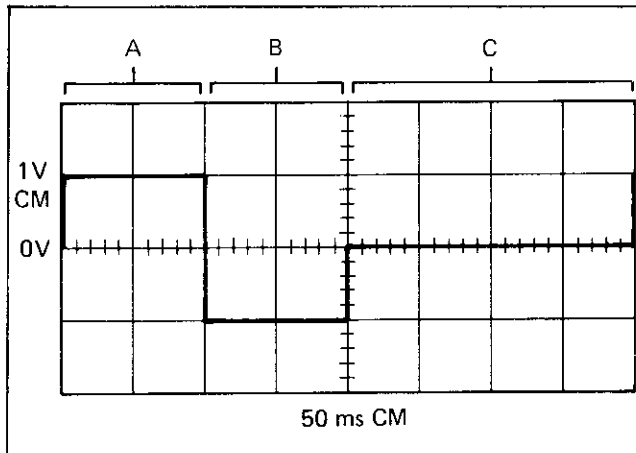

Figure 4-3. TP1 Waveform
4. Connect the scope between TP1 (high) and the LO INPUT terminal. The scope should display the waveform shown in Figure 4-3.